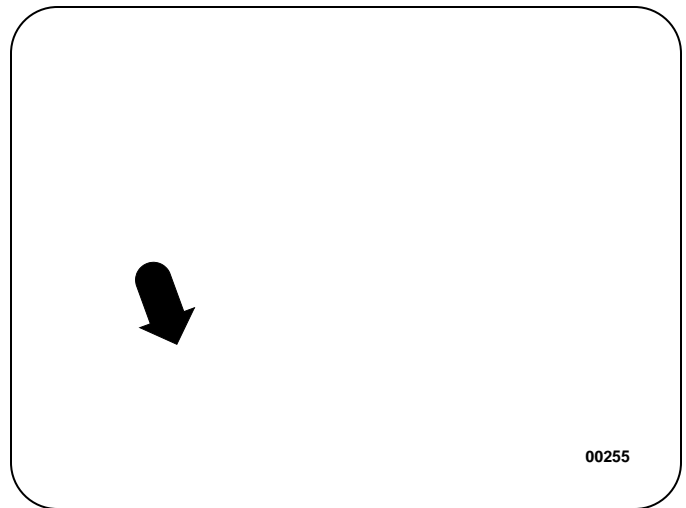

Figure 1: Swing-Out Pump Access Guard
3. Open the swing-out pump access guard to access the mono-block valve. See Figure 1.